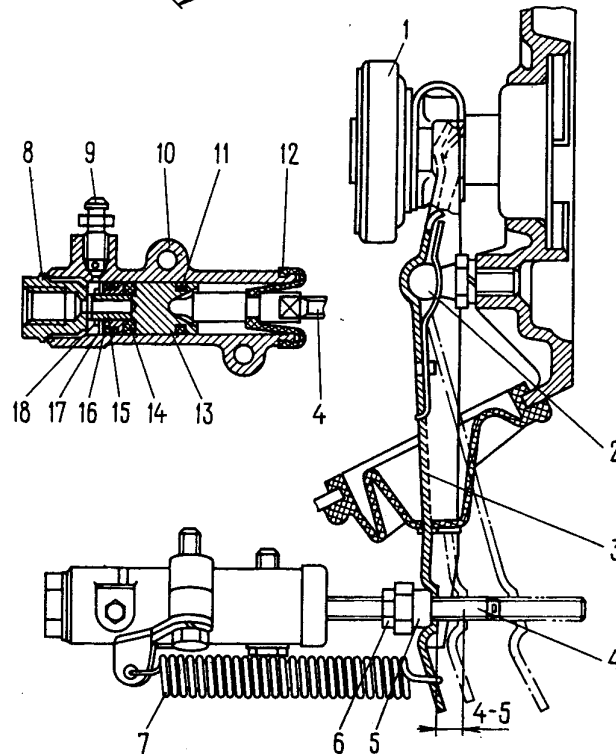

Fig. 3-3. Clutch Operating Cylinder and Release Yoke:
- adjust free travel of the operating cylinder pushrod (4 to 5 mm) with nut 5 (Fig. 3-3) which is fixed by locknut 6. Free travel of the pushrod is checked with a special templet.
- put a hose on the head of operating cylinder bleeder union 9 (Fig. 3-3) and dip its other end into a vessel with the brake hydraulic fluid (30 - 50 g);
The first thing to do is to drain the hydraulic fluid. For this purpose slip one end of the hose on bleeder union 9 (Fig. 3-3) of the operating cylinder, dip its other end into a clean vessel, unscrew union 9 through 1/2 - 3/4 of a revolution and keep pumping the pedal until all fluid is drained from the hydraulic system. Then disconnect the pipes laid between the master and operating cylinders, disconnect retracting spring 7, remove the cotter pin from the end of the pushrod, unscrew two bolts which fasten the operating cylinder and remove the latter.